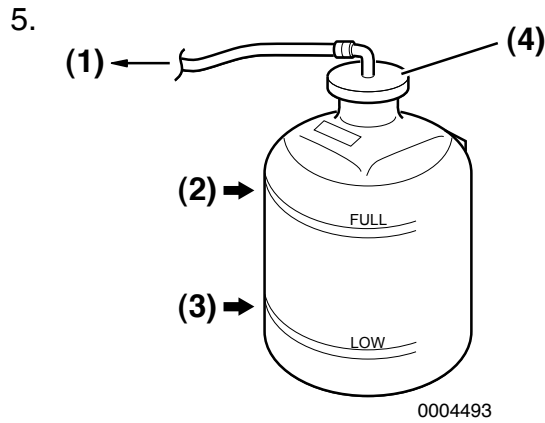

Figure 20
5. Check the coolant level in the coolant recovery tank. The level should be at the FULL mark (**Figure 20, (2)**). Add coolant if necessary. **NOTICE: NEVER pour cold coolant into a hot engine.**
6. Remove coolant recovery tank cap (**Figure 20, (4)**) if necessary. Do not add water.
8. Check the rubber hose (**Figure 20, (1)**) connecting the coolant recovery tank to the coolant tank / heat exchanger. Replace if damaged.